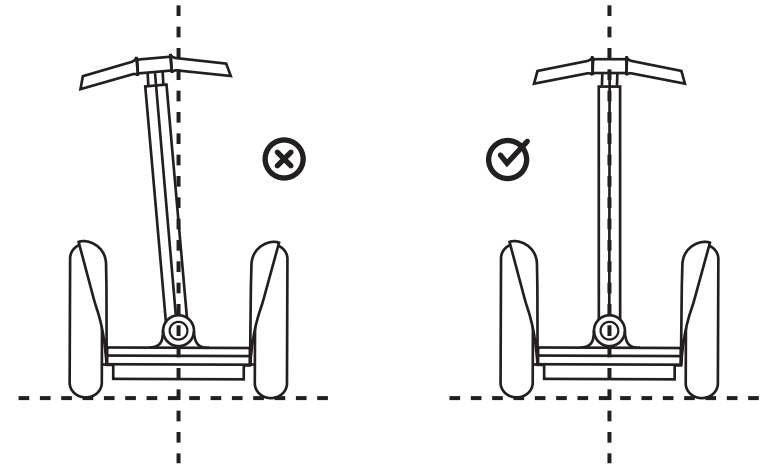

Figure 3. Center the LeanSteer Frame
7. Prior to tightening the fastener, visually check that the handlebar is straight and centered. If it is not, adjust the LeanSteer Frame to straighten and center it. See Figure 3.